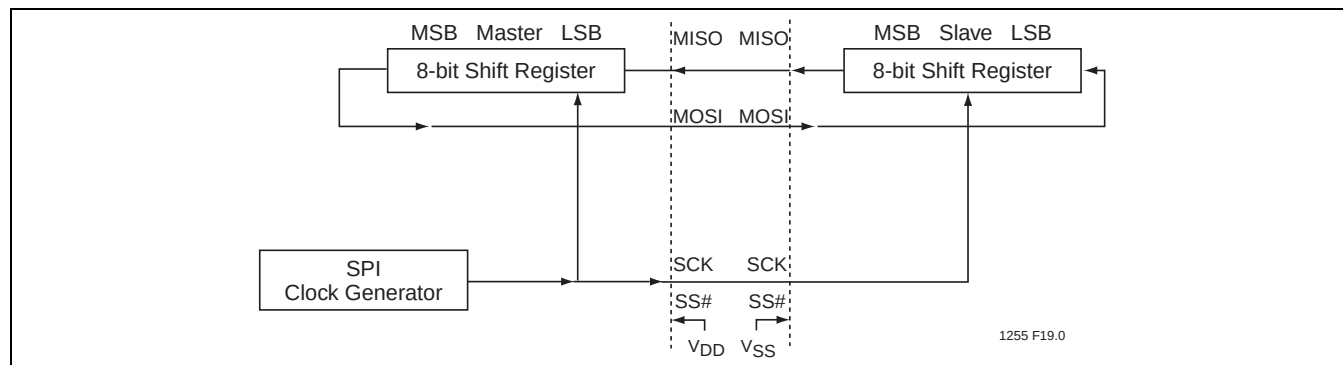

**FIGURE 6-4: SPI MASTER-SLAVE INTERCONNECTION**
Figure 6-4 shows the correspondence between master and slave SPI devices. The SCK pin is the clock output and input for the master and slave modes, respectively. The SPI clock generator will start following a write to the master devices SPI data register. The written data is then shifted out of the MOSI pin on the master device into the MOSI pin of the slave device. Following a complete transmission of one byte of data, the SPI clock generator is stopped and the SPIF flag is set. An SPI interrupt request will be generated if the SPI Interrupt Enable bit (SPIE) and the Serial Port Interrupt Enable bit (ES) are both set.